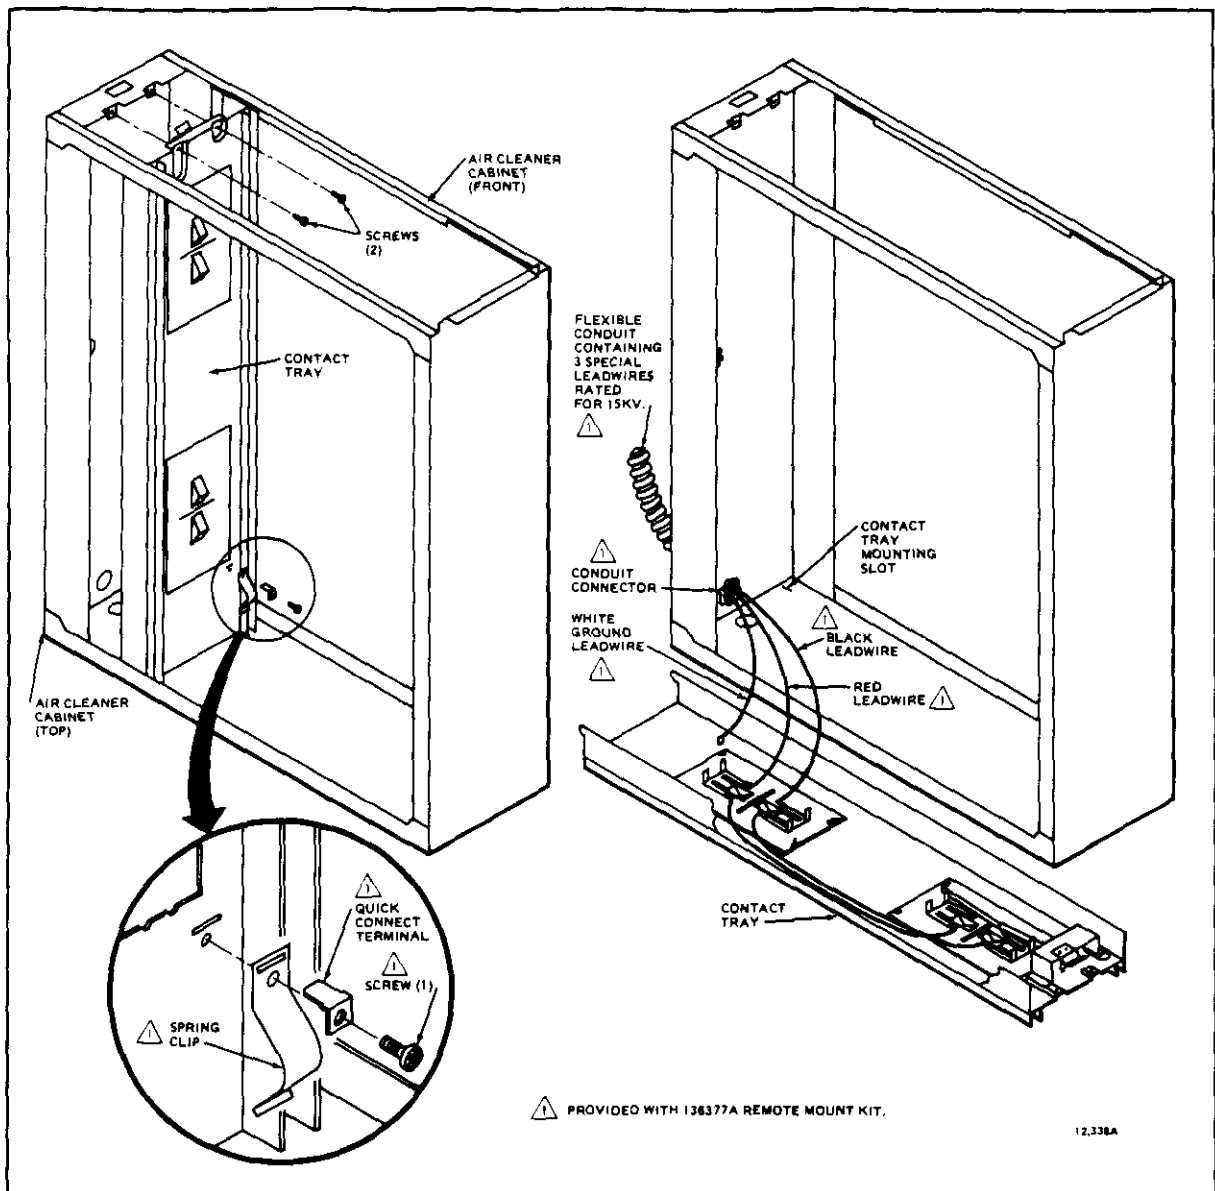

FIG. 18—INSTALL THE CONDUIT ON THE CABINET AND MAKE WIRING CONNECTIONS TO CONTACT TRAY.
- Connect the black wire to the collector terminal and the red wire to the ionizer terminal. See Fig. 18.
- Mount one of the quick-connect ground terminals and the leaf spring supplied in the kit on the contact tray and connect the white wire to it. See Fig. 18.